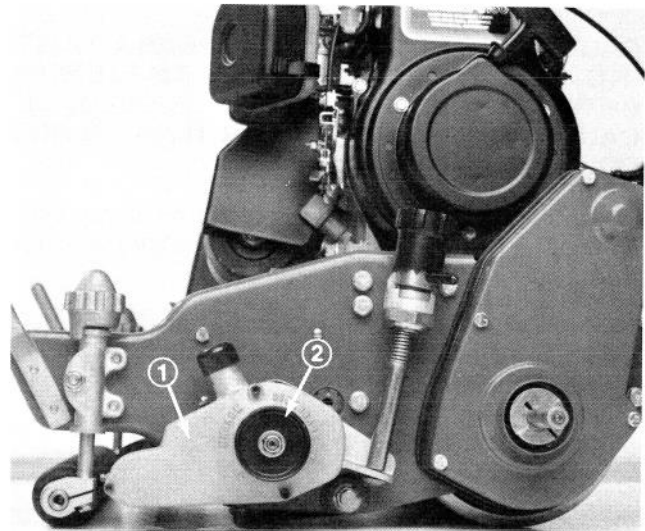

Figure 12
18. Reinstall the clutch housing cover to clutch housing, using the (3) socket head screws and lockwashers previously removed (Fig. 12).
19. Reinstall the clutch engagement knob to the clutch assembly with two allen head set screws, previously removed (Fig. 12).